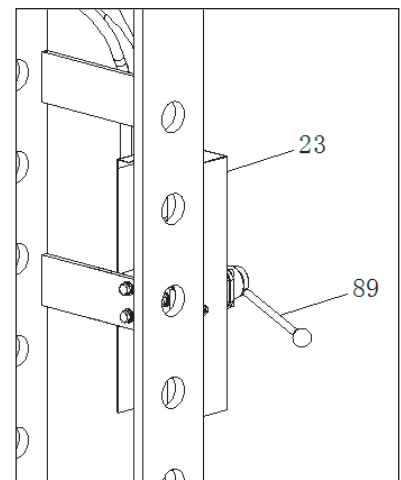

Fig. 9
- Take out the handle for selector (89) and assemble it to the selector (23) (refer to Fig. 9).